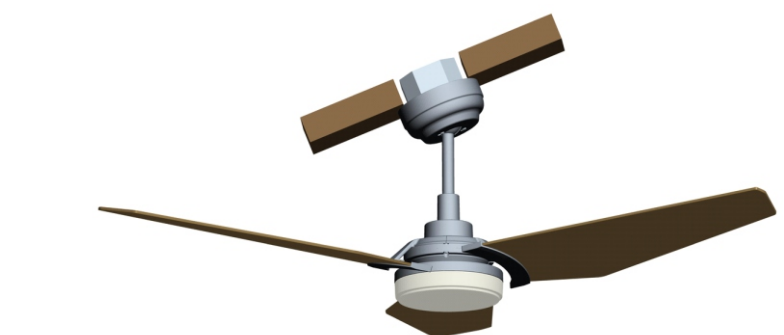

Fig 5.3
**Note:** The wooden ceiling beam must meet the tensile test of 30KG for installation, as shown in Fig 5.2. It is also possible to install the mounting bracket directly to the concrete ceiling and install four screws to the left and right corresponding holes of the bracket to lock the ceiling, as shown in Fig 5.3.
### If you have an angled or vaulted ceiling: (Fig 5.3)